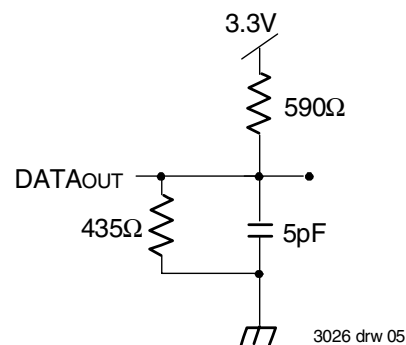

Figure 2. Output Test Load
1. Transition is measured 0mV from Low or High-impedance voltage with Output Test Load (Figure 2).
7. This parameter is determined to be device characterization, but is not production tested. Transition is measured 0mV from steady state with the Output Test Load (Figure 2).